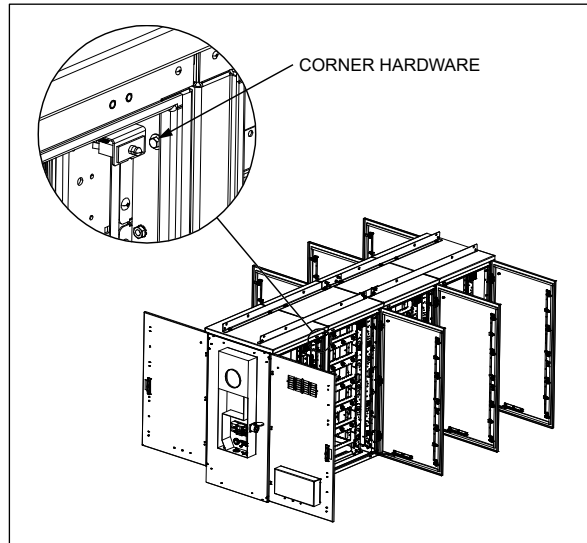

Figure 4 Remove Hardware at Bay Corners
3. Locate the bolts that secure the bays together at the corners (Figure 4). Remove this hardware.